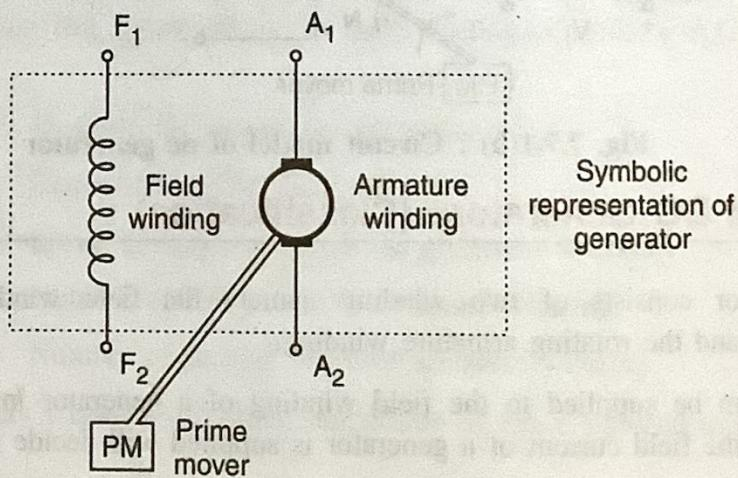

Fig. 7.8.2 : Symbolic representation of a generator
- They are shown in Fig. 7.8.2. The terminals of the two windings are marked as  $F_1$ ,  $F_2$  and  $A_1$ ,  $A_2$  respectively.
- In Fig. 7.8.2, the field winding is shown like a coil whereas the armature winding is shown like a drum as this winding is placed on the armature drum.